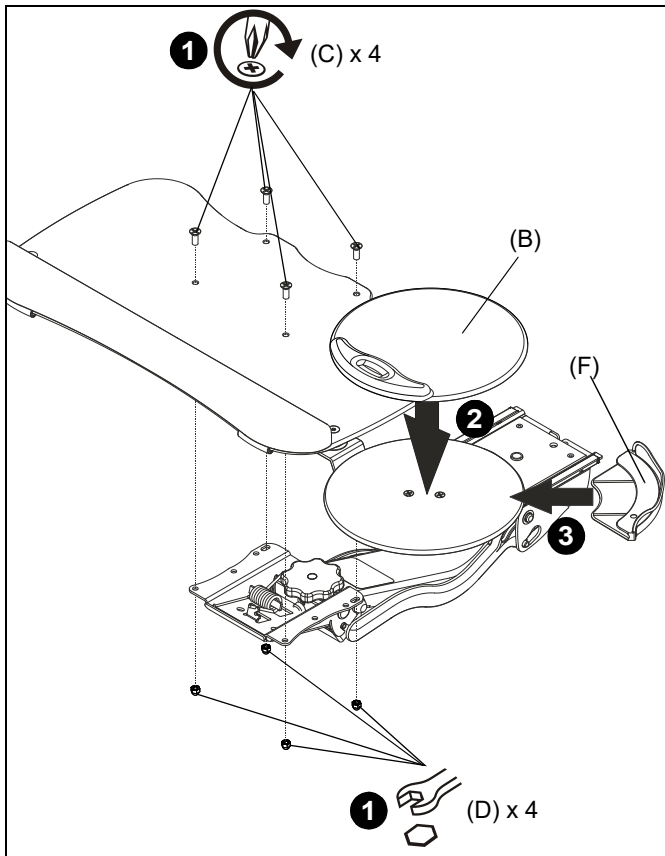

Figure 1
1. Use four #10-24 x 1/4" Phillips machine screws (C) and four acorn nuts (D) to secure keyboard tray (A) to keyboard mechanism (not included). (See Figure 1)
2. Place mouse pad (B) onto mouse arm surface. (See Figure 1)
3. Slide mouse fence (F) onto mouse arm surface. (See Figure 1)